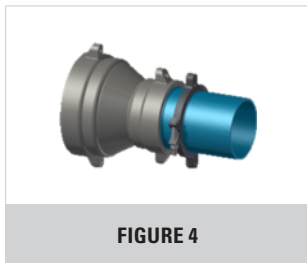

FIGURE 4
4. Connect both restrainers per Figure 4 utilizing the threaded restrainer connecting rods provided. Place a flat washer (where provided) over onto connecting rods and against the restrainer ear. Install hex nuts on the connecting rods and hand tighten all hex nuts to hand tight plus half turn. Do not overtighten connecting rod retaining hex nuts thus forcing the spigot further into the joint.
4. Connect restrainer to fitting per Figure 4. Inserting the rods through the restrainer ears (rod and 3 hex nuts provided for each ear), gland and fitting bolt hole. Install one hex nut behind fitting bell, one hex nut against the gland and one hex nut behind the restrainer ear against the washer. Tighten hex nut up to gland per AWWA C600 standard. Use additional hex nuts (not included) on the inside of the restrainer ear if joint is expected to contract.